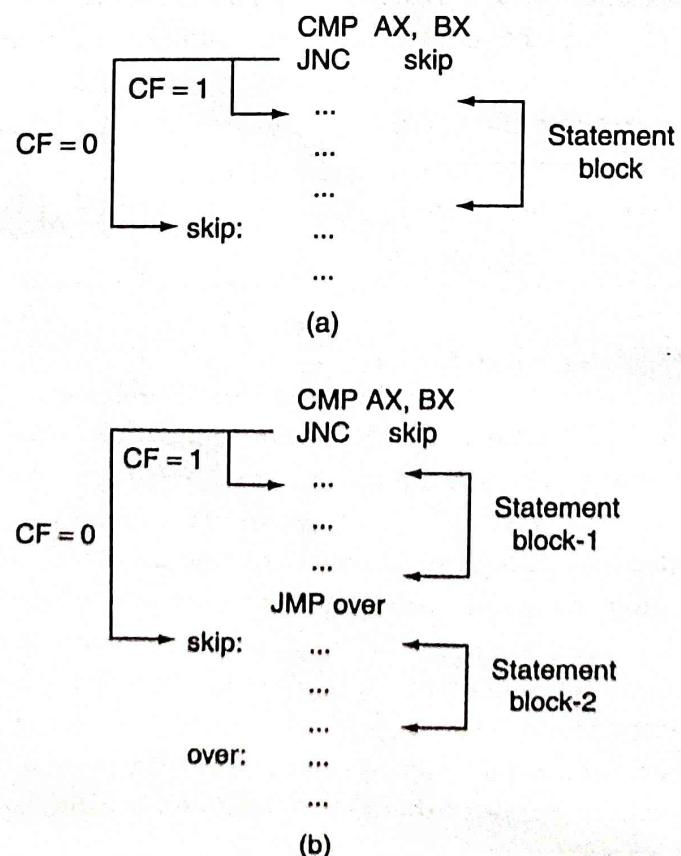

Figure 5 Implementing decision making in 8086 programming (a) without else and (b) with else.
If the condition is true, then the statement block associated with the **If** part is executed, otherwise the statement block associated with the **Else** part is executed. Normally, the **Else** part is optional, and in case it is not present then the no action is performed if the condition is false. Figure 5 shows the implementation of if-else in 8086 using the status of the carry flag (CF) as condition.
As can be seen from Fig. 5(a), when the CF is 1, the condition is true and the statements in the statement block are executed. If the CF is 0, the condition is false and the control is transferred to the next instruction after the statement block. In Fig. 5(b), if the condition is true, that is CF = 1, the statement block-1 is executed, and if the condition is false, that is CF = 0, the statement block-2 is executed. After executing either of the statement blocks, the control is transferred to an instruction after the whole if-else statement. We can use any condition jump instruction to provide the condition in the above case which uses one or more conditional flags to provide the necessary conditions. The following programs show the use of decision making in programs.